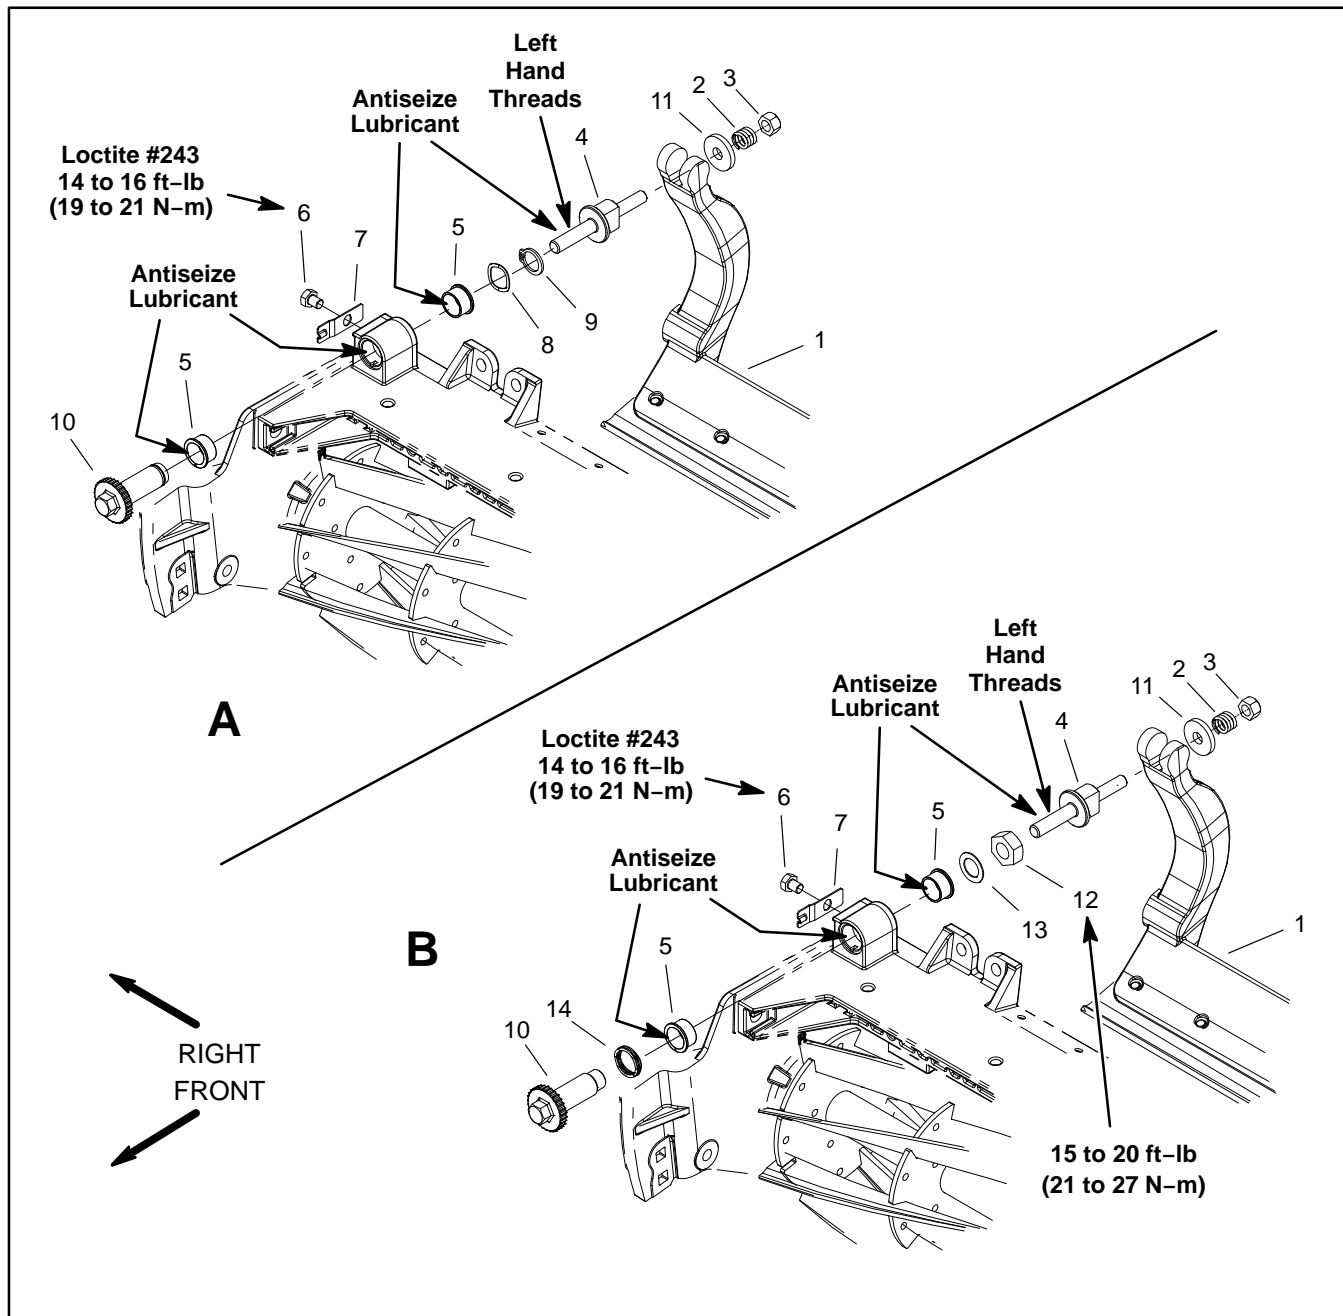

Figure 32
NOTE: The bedbar adjuster system for early production DPA cutting units (Fig. 32 A) used a retaining ring on the end of the bedbar adjuster shaft. Current production DPA cutting units (Fig. 32 B) include a lock nut on the end of the bedbar adjuster shaft. Upgrading to the
Removal (Fig. 32)
1. Remove lock nut (item 3), compression spring and washer from bedbar adjuster screw (item 4).
3. Remove bedbar adjuster screw (left hand threads) from the bedbar adjuster shaft (item 10).
- A. On early production cutting units (Fig. 32 A), remove retaining ring and wave washer from adjuster shaft. Slide adjuster shaft from cutting unit frame.
- B. On current production cutting units (Fig. 32 B), remove lock nut and flat washer from adjuster shaft. Slide adjuster shaft and wave washer from cutting unit frame.
5. Inspect flange bushings (item 5) in cutting unit frame and remove if necessary.
6. If detent (item 7) is damaged, remove it from cutting unit side plate.
Installation (Fig. 32)
1. If detent (item 7) was removed, apply Loctite #243 (or equivalent) to threads of cap screw and secure detent to cutting unit side plate with cap screw. Tighten cap screw from **14 to 16 ft-lb (19 to 21 N-m)**.
2. If flange bushings (item 5) were removed, apply anti-seize lubricant to bore of cutting unit frame. Align key on bushing to slot in frame and install bushings into frame. Apply antiseize lubricant to bore of each flange bushing.
A. On early production cutting units (Fig. 32 A), slide bedbar adjuster shaft into flange bushings in cutting unit frame. Secure adjuster shaft with wave washer and retaining ring.
B. On current production cutting units (Fig. 32 B), slide wave washer onto adjuster shaft and then slide adjuster shaft into flange bushings in cutting unit frame. Secure adjuster shaft with flat washer and lock nut. Tighten lock nut to shoulder of adjuster shaft and then torque lock nut from **15 to 20 ft-lb (21 to 27 N-m)**.